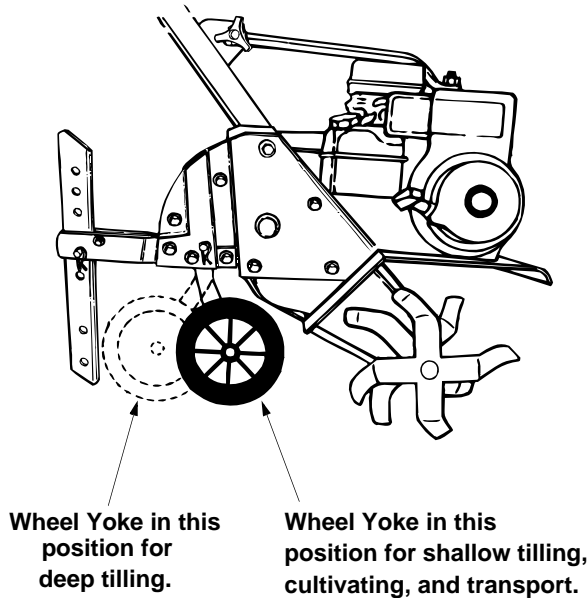

Figure 11
- Wheel Yoke Adjustment:** Place wheel yoke so that the wheels are forward (nearest point between wheels and tines) for shallow tilling, cultivating and transport. The forward speed will increase. Turn yoke around (farthest point between wheels and tines) for deep tilling. Forward speed will decrease. See Figure 11.